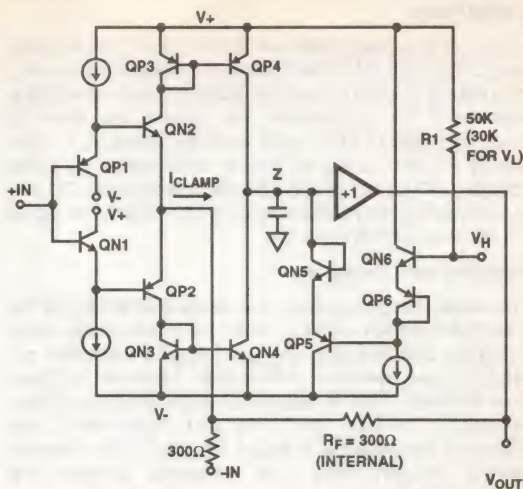

FIGURE 1. HFA1113 SIMPLIFIED  $V_H$  CLAMP CIRCUITRY
Figure 1 shows a simplified schematic of the HFA1113 input stage, and the high clamp ( $V_H$ ) circuitry. As with all current feedback amplifiers, there is a unity gain buffer (QX1 - QX2) between the positive and negative inputs. This buffer forces -IN to track +IN, and sets up a slewing current of  $(V_{IN} - V_{OUT})/R_F$ . This current is mirrored onto the high impedance node (Z) by QX3-QX4, where it is converted to a voltage and fed to the output via another unity gain buffer. If no clamping is utilized, the high impedance node may swing within the limits defined by QP4 and QN4. Note that when the output reaches its quiescent value, the current flowing through -IN is reduced to only that small current ( $-I_{BIAS}$ ) required to keep the output at the final voltage.
The clamped output voltage will not be exactly equal to the voltage applied to  $V_H$  or  $V_L$ . Offset errors, mostly due to  $V_{BE}$  mismatches, necessitate a clamp accuracy parameter which is found in the device specifications. Clamp accuracy is a function of the clamping conditions. Referring again to Figure 1, it can be seen that one component of clamp accuracy is the  $V_{BE}$  mismatch between the QX6 transistors, and the QX5 transistors. If the transistors always ran at the same current level there would be no  $V_{BE}$  mismatch, and no contribution to the inaccuracy. The QX6 transistors are biased at a constant current, but as described earlier, the current through QX5 is equivalent to  $I_{CLAMP}$ .  $V_{BE}$  increases as  $I_{CLAMP}$  increases, causing the clamped output voltage to increase as well.  $I_{CLAMP}$  is a function of the overdrive level ( $V_{IN} - V_{OUT}$  CLAMPED), so clamp accuracy degrades as the overdrive increases. As an example, the specified accuracy of  $\pm 80mV$  for a 2X overdrive degrades to  $\pm 250mV$  for a 3X overdrive.